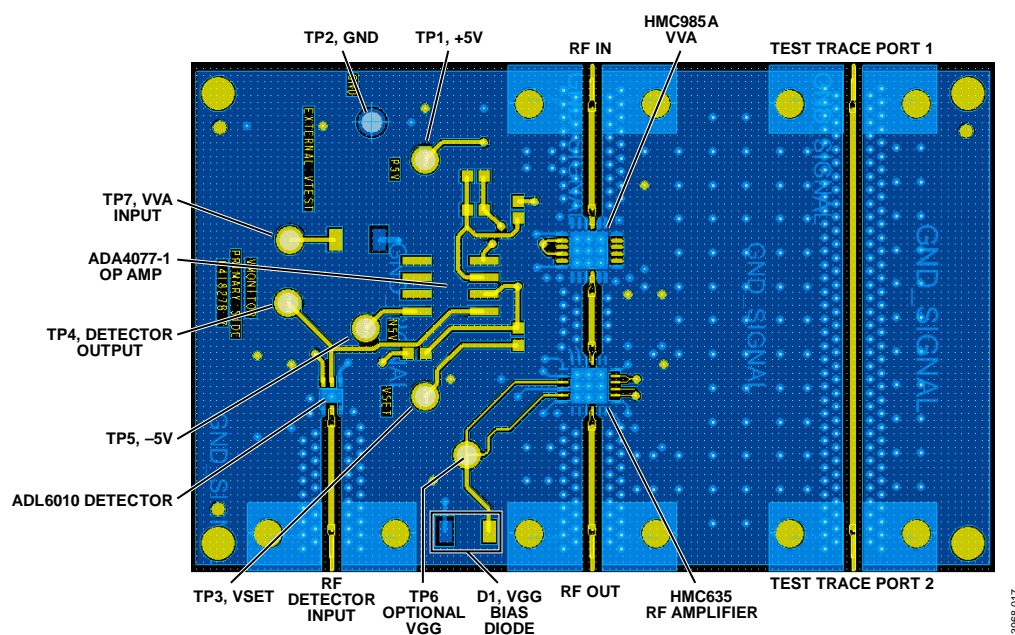
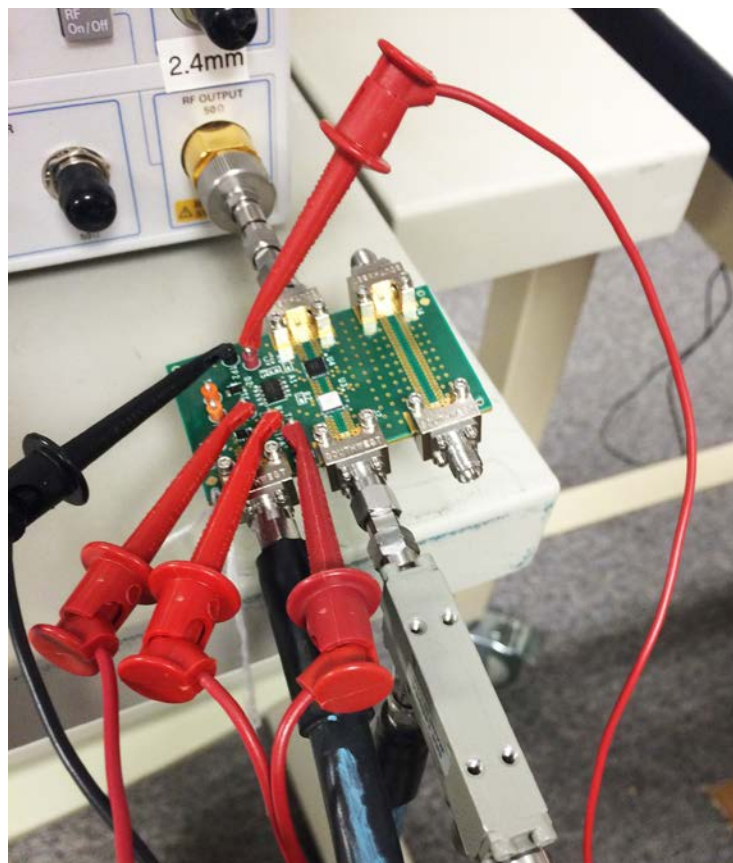

Figure 17. ADL6010 AGC Circuit—PCB
Figure 18. ADL6010 AGC Circuit—Test Configuration
5. Connect all other cables and supplies as shown in Figure 18.
layout, with power and signal connections, is given in Figure 17. The PCB, in the actual test setup, is shown in Figure 18. Note the connection of the external 10 dB directional coupler, and that the RF input connects directly to the RF generator to eliminate the need to compensate for cable loss.